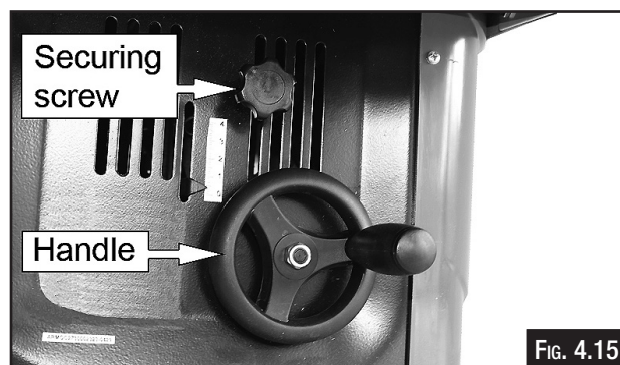

FIG. 4.15
1. Slide the handle over the shaft making sure it engages with the pin in the shaft. (Fig. 4.15)